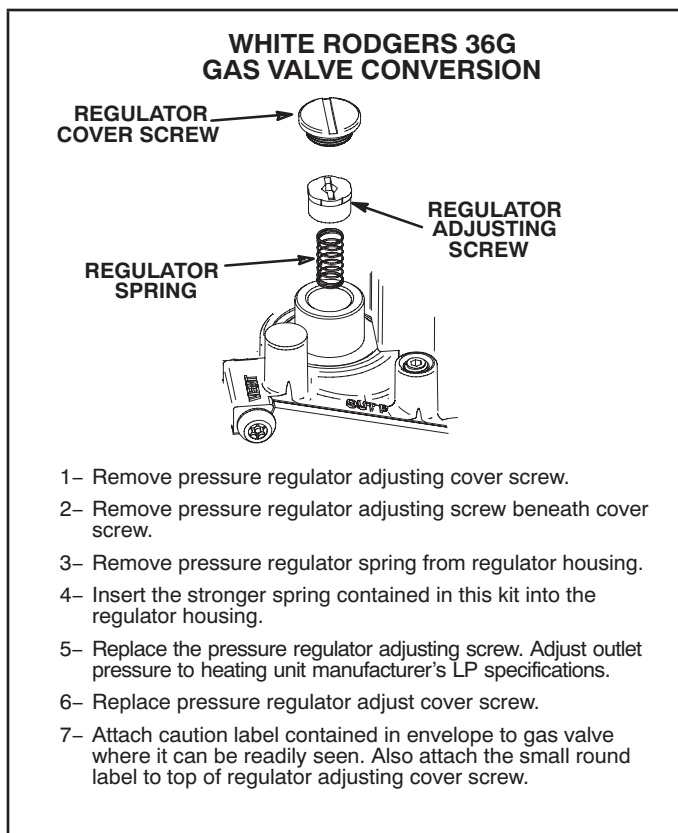

Figure 2
- 8 - Install gas valve conversion kit. Refer to manufacturer's instruction packed in valve conversion kit. See figure 2.
- 2 - After gas line pressure has been checked and adjusted, check manifold pressure at the pressure tap on the outlet side of the gas valve. The correct manifold pressure for LP/propane gas is given in table 2 or 3. Refer to figure 2 for gas manifold pressure adjustment screw location.